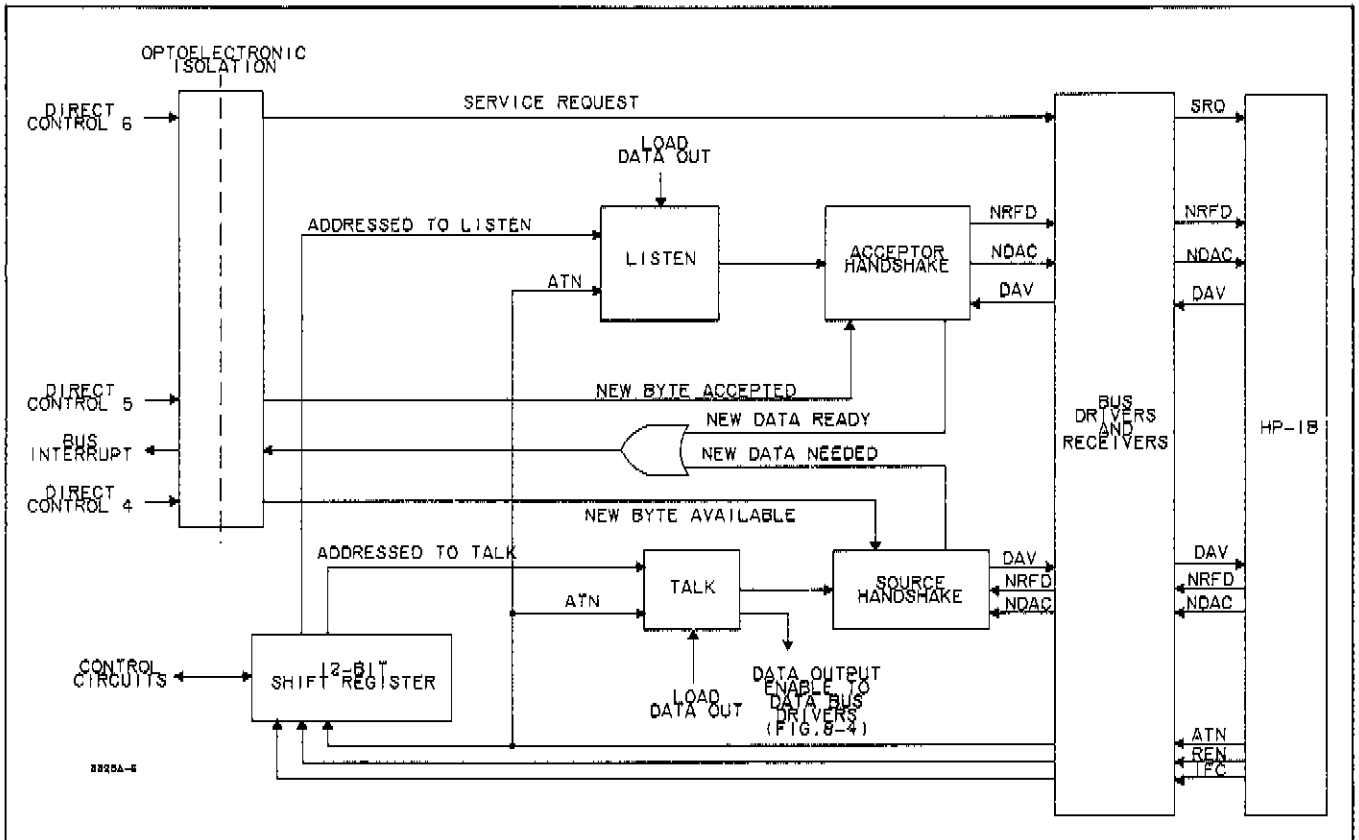

Figure 8-6. HP-IB Management and Handshake.
**8-15. Acceptor Handshake.** The Listen circuits (shown near the upper center of Figure 8-6) enable the Acceptor Handshake block to operate if the 3325A is addressed to listen or if ATN (Attention) is true. When it is not addressed to listen but ATN is true, it accepts data in order to detect its listen or talk address or the unlisten command. After the 3325A has been addressed to listen it accepts programming data when ATN is false and looks for its talk address or the unlisten command when ATN is true. When the HP-IB DAV (Data Valid) signal indicates that data is ready on the bus, the Acceptor Handshake circuits output New Data Ready, which becomes a Bus Interrupt signal to the processor. The Acceptor circuits also set NRFD (Not Ready For Data) to indicate to the bus that the 3325A is in the process of accepting the data byte. After the byte has been accepted, the processor outputs a New Byte Accepted to the Acceptor circuits, which then resets the NDAC (Data Accepted) line to high.